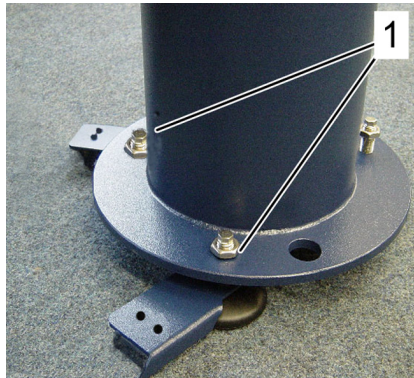

Figure 4.15: Mounting and leveling the pillars – step 6
11. Repeat the leveling check on each section between the three pillars. In case the leveling is not correct obey the following instructions (see Figure 4.15).